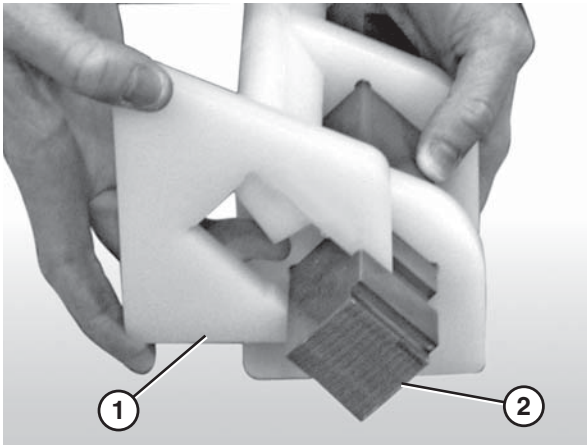

Figure 65
3. Attach the nose bar tracking pucks (Figure 65, item 1) to the nose bar drive post (Figure 65, item 2).